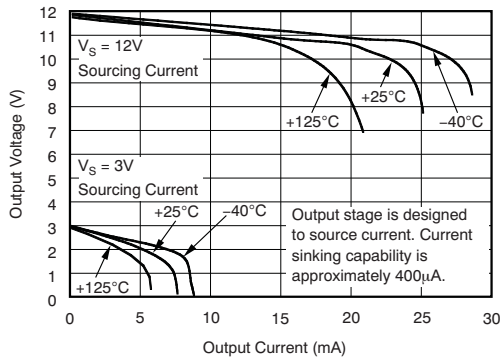

FIG 8. Positive Output Voltage Swing vs Output Current
(2) Total output error includes effects of gain error and V_{OS} .
(3) Linearity is best fit to a straight line.
(4) For details on this region of operation, see Accuracy Variations section in Device Functional Modes.
(5) See Figure 8.
(6) Specified by design.